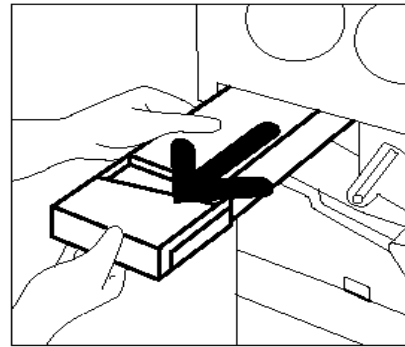

Figure 14: Removing the old Dry Ink Waste Container
- 4** Grasp the Dry Ink Waste Container with your right hand, as illustrated in Figure 14, and pull the Dry Ink Waste Container completely out of the copier/printer.